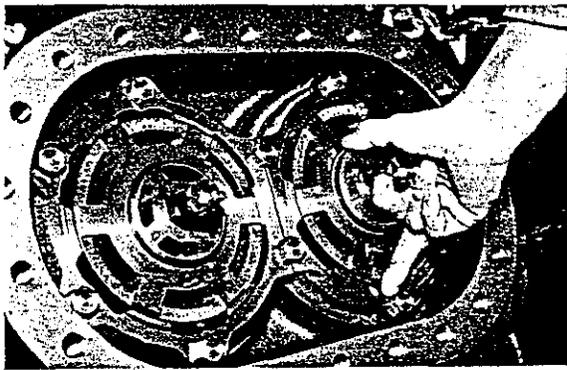

Fig. 53 How to remove discharge valve assembly
d) Pull out unloader piston (1) using the eyebolt supplied in the hand tool kit, or push in the unloader piston with your thumb and release it quickly so that it is pushed out by the expanding action of the spring (4).
e) Pull out push rod (5) as shown in Fig. 53. Spring (4) and washer (3) are attached to the push rod with a screw (2); do not take them apart.